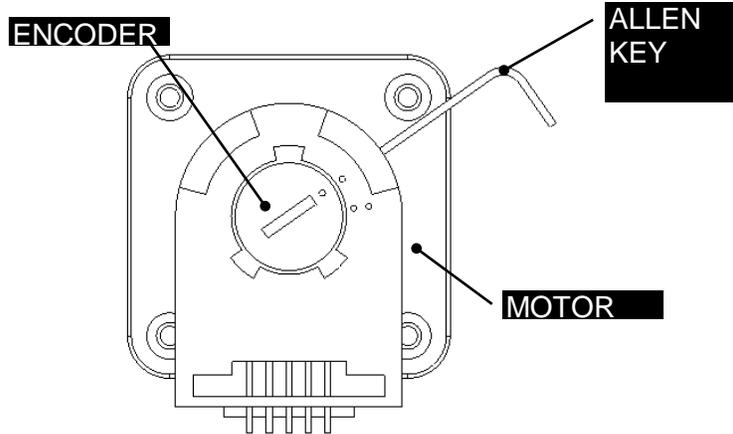

Figure 9-19: Setting the Encoder on the Idler Shaft
4. While continuing to apply a downward force, rotate the Allen Key to the clockwise direction until the hub set screw is tight against the idler shaft (Figure 9-19, 9-20). Remove the Allen Key by pulling it straight out of the encoder body.